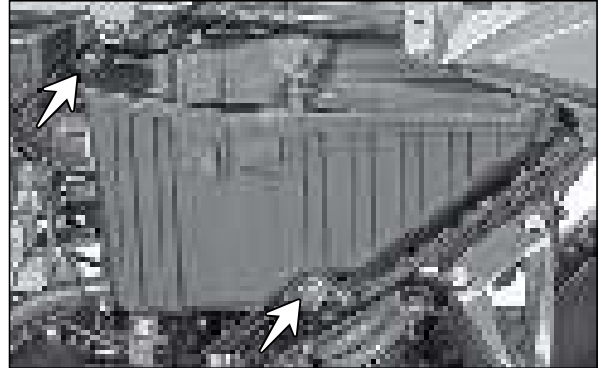

Fig. 6.139
- Remove the CRR pan head screw (M6x16 - 2 Nos.) along with the punched washers and take out the air cleaner assembly. (Fig. 6.139)